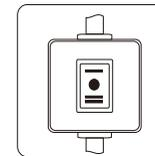
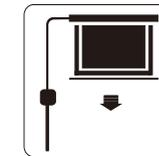

Figure 1
Figure 2
Use a tape measure, to measure the distance between two keyholes (figure 1). According to the measurement, drill the identical holes of the appropriate size on the wall and ensure that they are on the same level (figure 2 and 3). Screw in two screws, and then fasten the screws on the two sides of screen. Finally, please hang on the casing (figure 4) and ensure whether the screen keeps balance (figure 5).
Use a tape measure, to measure the distance between two keyholes (figure 1). According to the measurement, drill the identical holes of the appropriate size on the wall and ensure that they are on the same level (figure 2 and 3). And then, drill two Screw Hooks (no accessories) into these identical holes and buckle the brackets on two ends (figure 4). After hanging, please ensure whether the screen keeps balance (figure 5)
1) In-Line Switch (Figure 1)
b) Connect power (prescribe voltage range) Screen Extending (Figure 2)
Screen Extending (Figure 2)